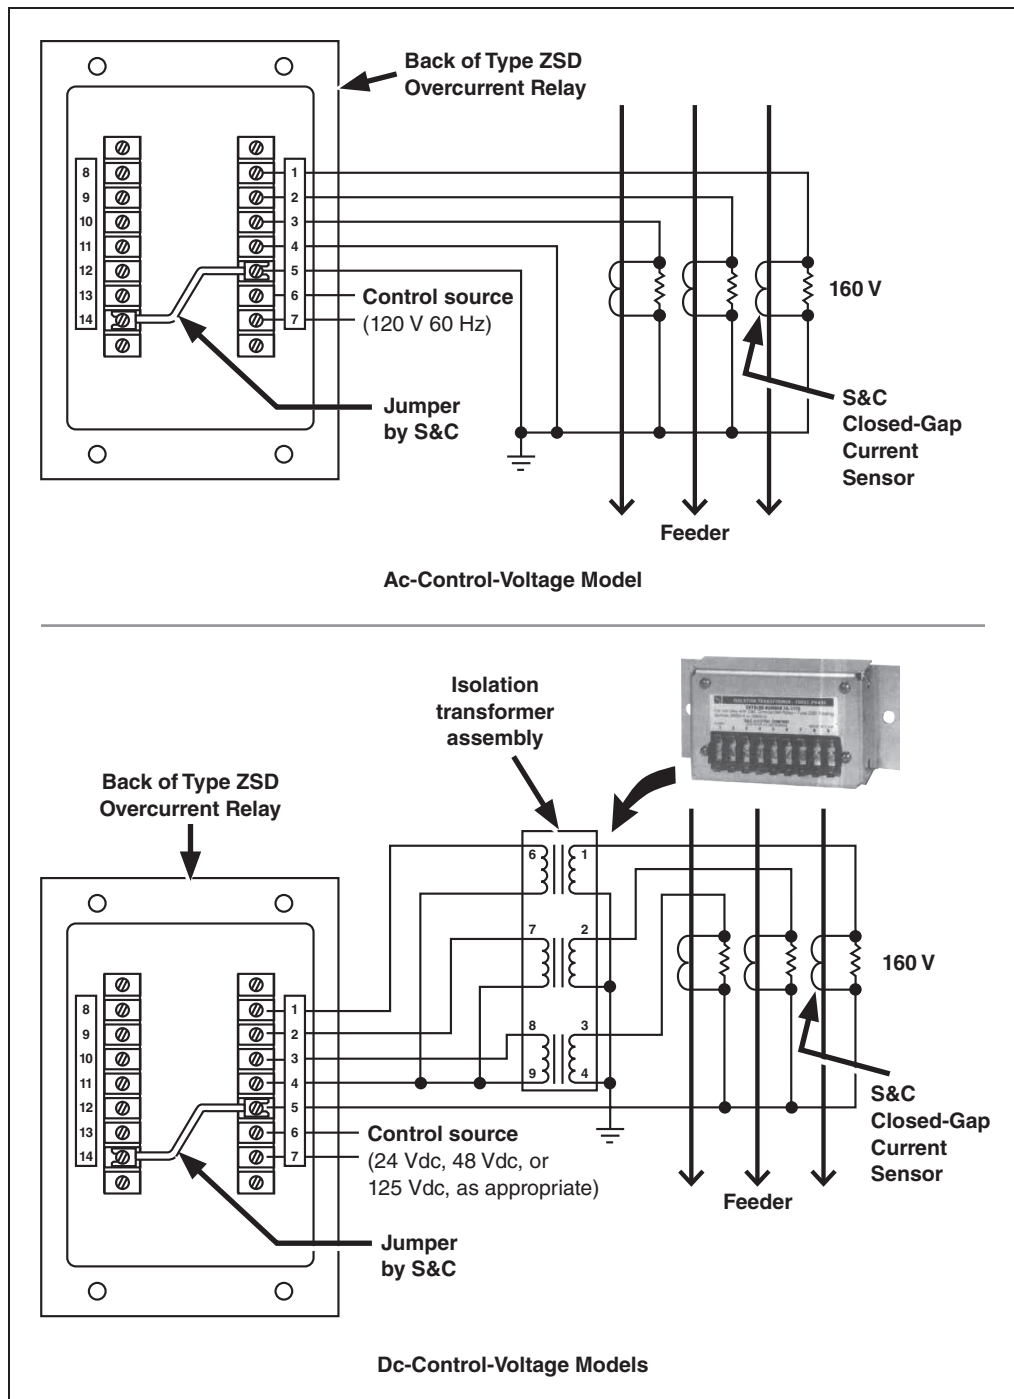

Figure 4. Three-line connection diagram.
STEP 5. *For ac-control-power model:* Verify the S&C Closed-Gap Current Sensors have been properly installed by measuring the secondary-circuit resistance between Terminals 1 and 4, Terminals 2 and 4, and Terminals 3 and 4 on the back of the Type ZSD Overcurrent Relay. See Figure 4 (top) on page 12. Each resistance measurement should be between 75 and 95 ohms.
For dc-control-power models: Verify the S&C Closed-Gap Current Sensors have been properly installed by measuring the secondary-circuit resistance between Terminals 1 and 4, Terminals 2 and 4, and Terminals 3 and 4 on the Isolation Transformer Assembly. See Figure 4 (bottom) on page 12. Each resistance measurement should be between 65 and 85 ohms.
- STEP 2.** Remove the current-sensor output wires attached to Terminals 1, 2, and 3 on the back of the relay. See Figure 4 on page 12.